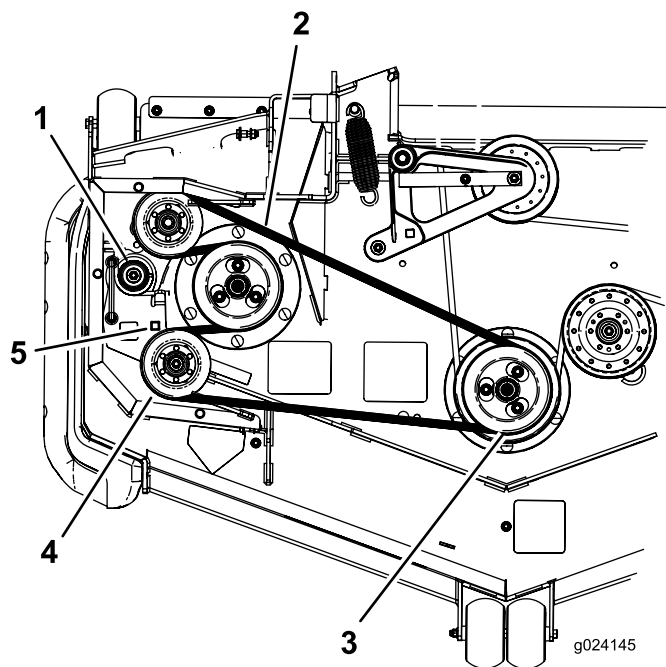

Figure 69
7. Use a ratchet in the square hole in the idler arm to remove tension on the idler spring (Figure 69).